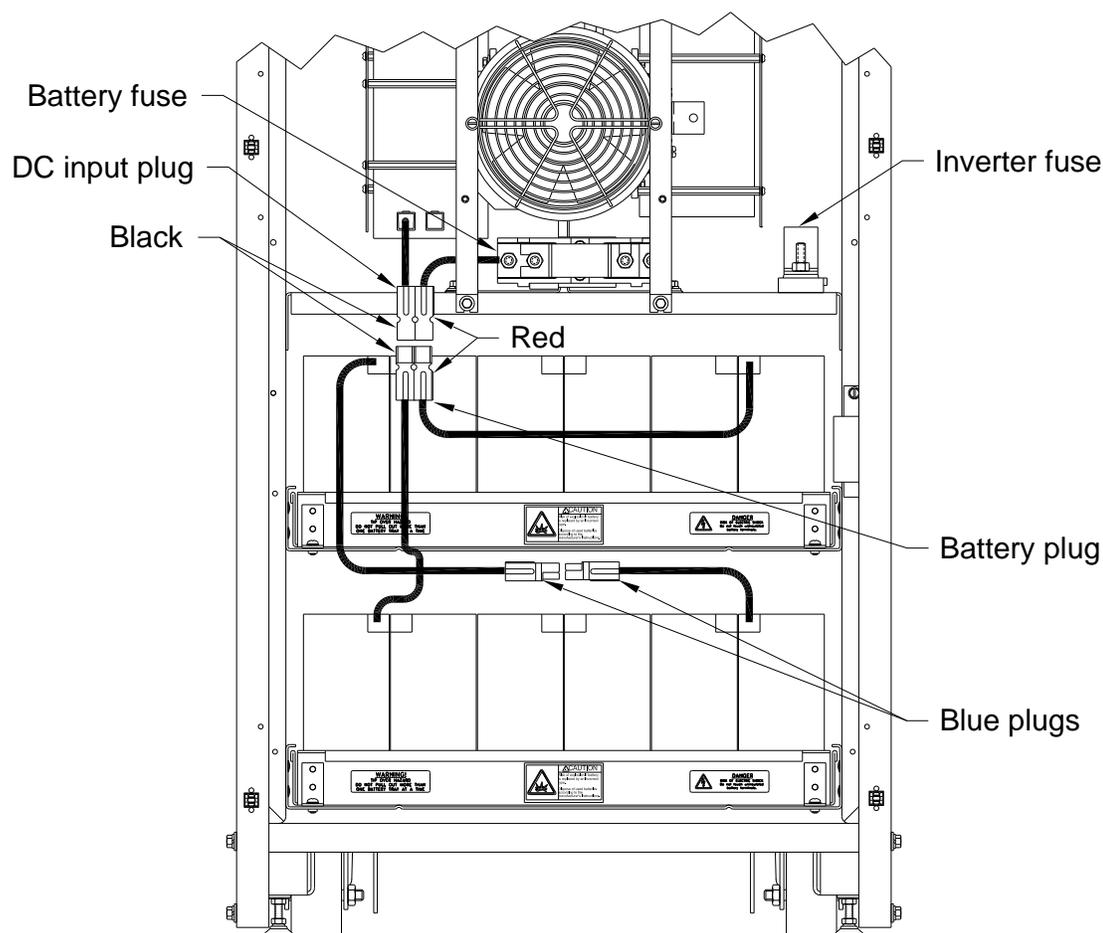

Figure 10 - Internal Battery
4. Use a voltmeter to verify that the battery string is above 420 VDC at the battery plug shown in figure 10.
7. Reference figure 10. Connect the battery plug to the DC input plug.